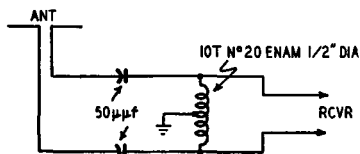

Fig. 304. Circuit for reduction of ignition noise pickup.
2. Connect two $50\text{-}\mu\text{f}$ capacitors in series with the antenna line and a center-tapped coil as shown in Fig. 304.